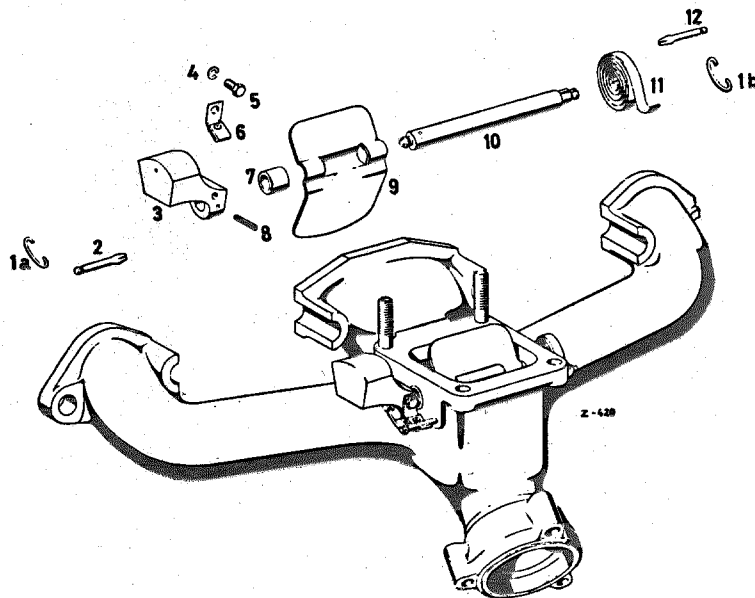

Fig. 14—5/1
1. Disconnect the tension spring (1b) and pull the heating spiral (11) off the heater valve shaft (10) (see Fig. 14—5/1).
that with the heater valve open the spring rests against the notched attaching pin (2) (see Fig. 14—5/1).
2. To do this, disconnect the tension springs (1a and 1b) at both sides of the heater valve shaft (10) and remove the heating spiral (11) (Fig. 14—5/1).
3. Use a cutting torch to cut away the heater valve (9). This is necessary because the